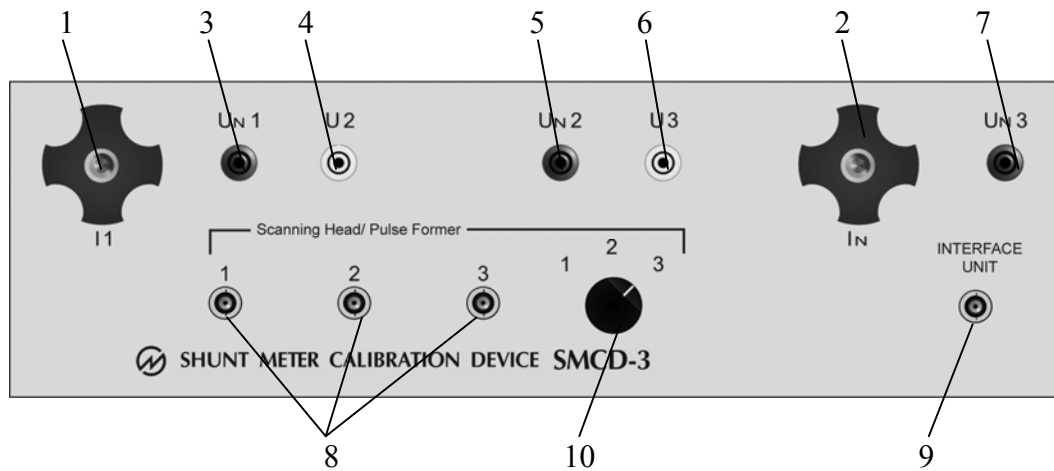
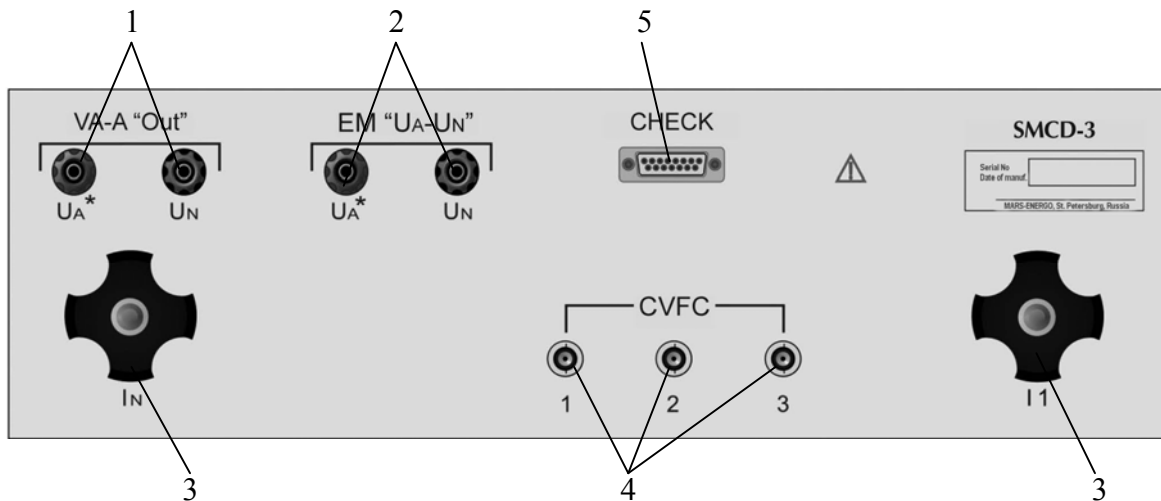

Fig. 2.1 Front panel
Fig. 2.2. Rear panel
2.4.1. The Device is designed as a stand-alone module with the connectors for meters under test and the ones for connecting to the test system located on its front (Fig. 2.1) and rear (Fig. 2.2) panels. Refer to Fig. 1 and 2 of the Appendix for making the connections.